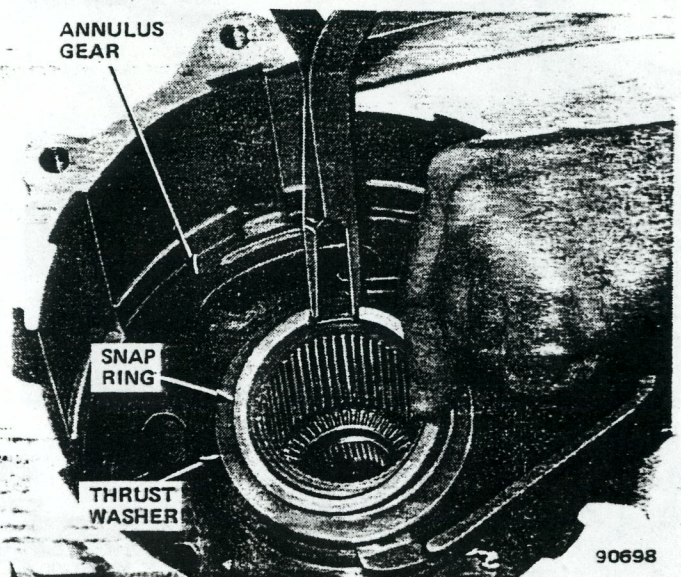

Fig. 2D-58 Annulus Gear Snap Ring and Thrust Washer Removal/Installation
(26) Remove mainshaft thrust washer and remove mainshaft (fig. 2D-57). Grasp shaft and pull straight up to remove.
(27) Move range operating lever downward to last detent position.